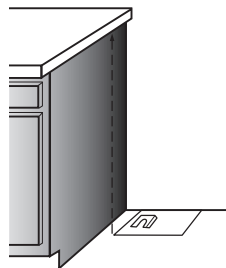

Figure 21
- 4 Place the template on floor in cabinet opening (where the range will be located) so that the left edge is against cabinet and top edge is against rear wall, molding or cabinet. (See Figure 21)